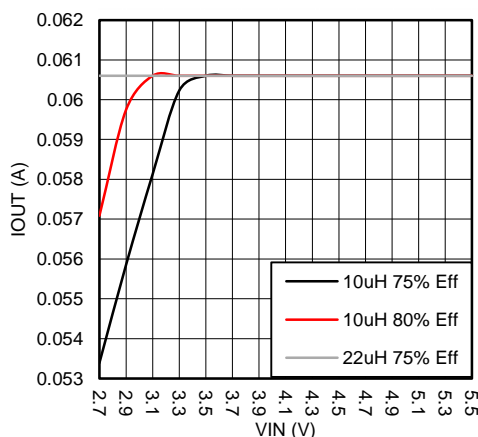

Figure 8. Maximum Output Power Vs Inductance And Efficiency
Figure 8 shows the output current derating for a 10- μH and a 22- μH inductor using 75% and 80% efficiency estimates. These plots take equations (2) and (3) from above and plot I_{OUT} with varying V_{IN} using a constant peak current of 880 mA (I_{CL_MIN}) and 1-MHz switching frequency. Using these curves can help the user understand the impact of V_{IN} , inductance, and efficiency on the maximum output current. A 10- μH inductor can typically be a smaller device with lower on resistance, but the peak currents will be higher. A 22- μH inductor provides for lower peak currents, but to match the DC resistance of a 10- μH inductor requires a larger sized device.